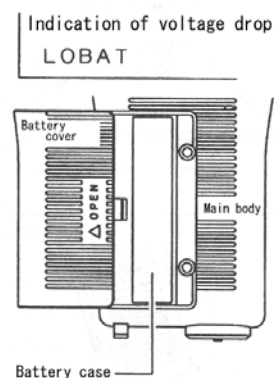

Fig.10
- When LOBAT(Low battery) is displayed on the lower left of the LCD as shown in Fig.10, replace the old batteries with fresh specified dry batteries R03 (1.5V)  $\times$  2pcs (notice usable limits).